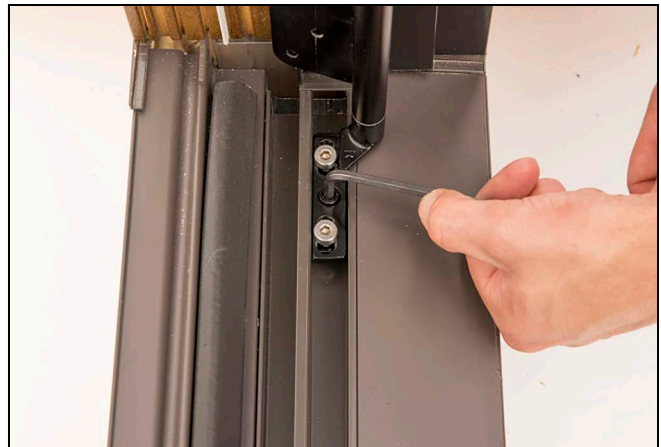

Figure 50
7. Place the hinge in the middle of its adjustment range by rotating the center cam, then fully tighten the bolts. See Figure 50.